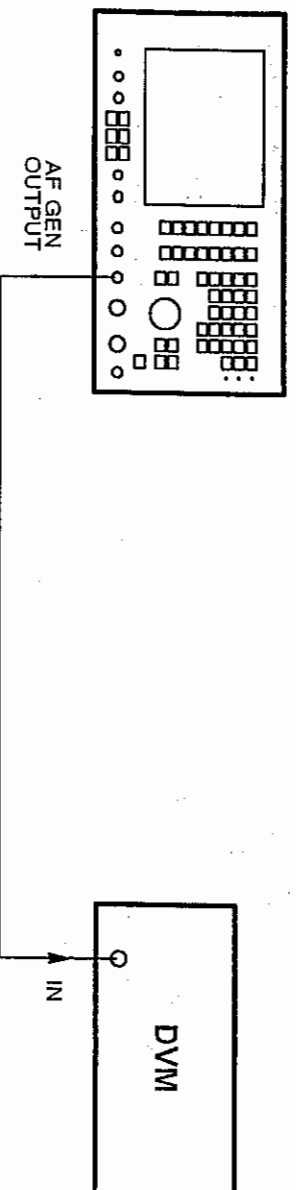

Fig. 6-15 Test equipment connections for AF generator DC offset
- (1) Connect the DVM to the AF GEN OUTPUT socket. See Fig. 6-15.